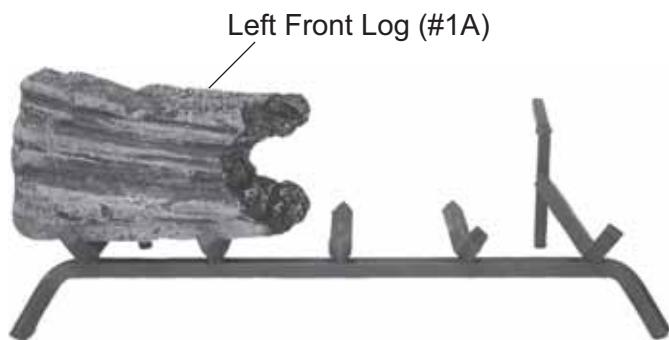

Figure 103 - Placing Left Front Log #1A on grate
2. Place Left Front Log #1A on front left of grate. See *Figure 103*.